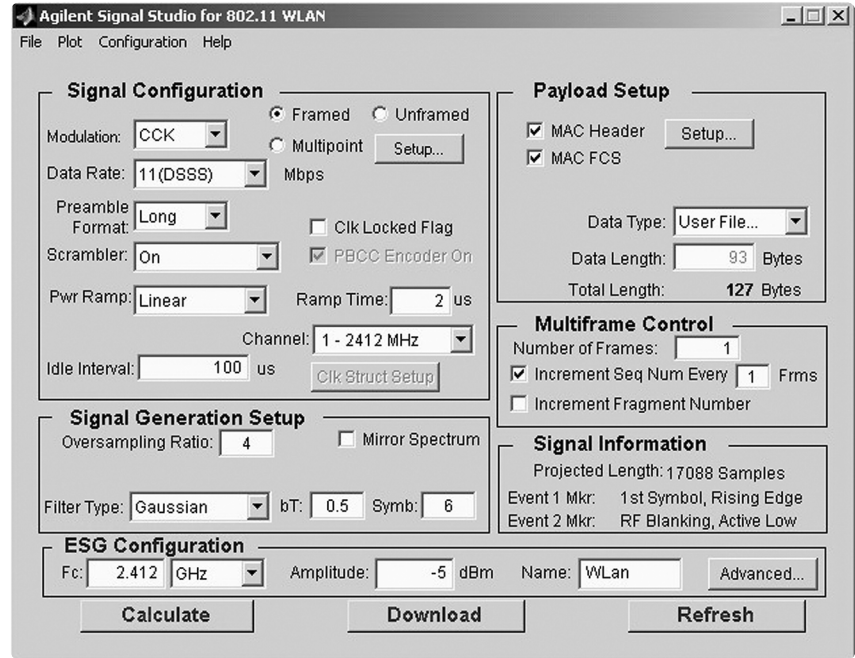

Figure 9: Selecting “User Files” for Data Type provides user-defined testing capabilities
To utilize user files, this selection must be chosen from the Data Type drop-down window in the Payload Setup screen (Figure 9).
3. See Figure 9 showing where the file name (WLAN) is placed.